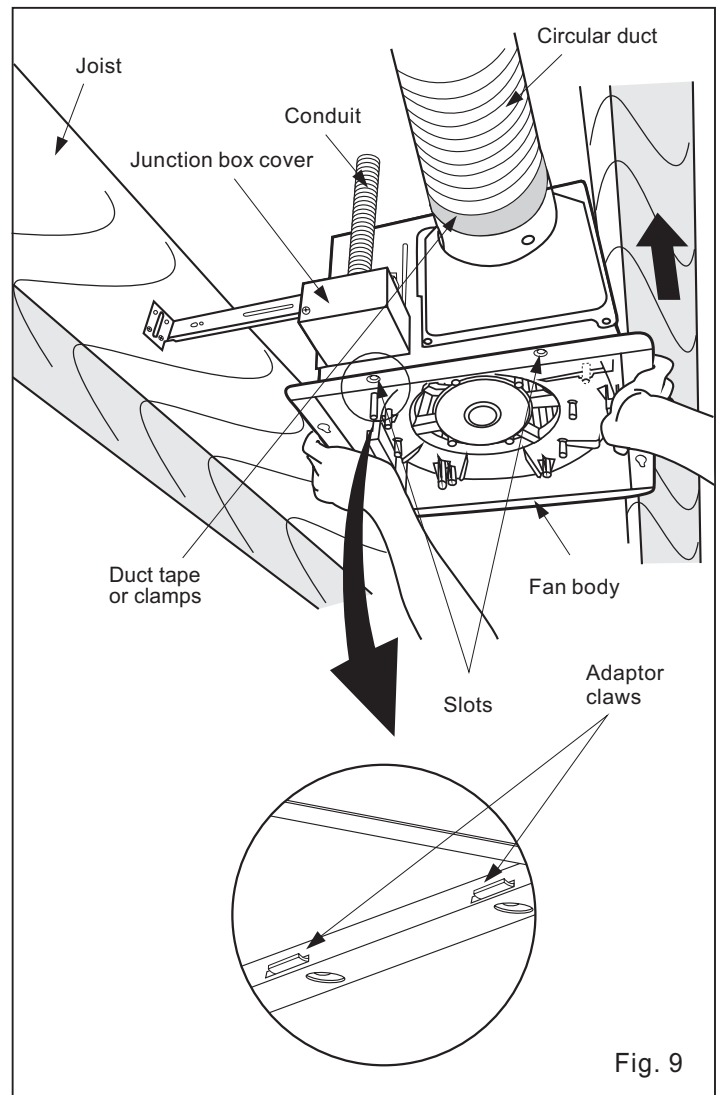

Fig. 9
5. Insert the fan body into joists. (Fig.9)
4. Insert fan body (without blower section) into joists (Fig.9)